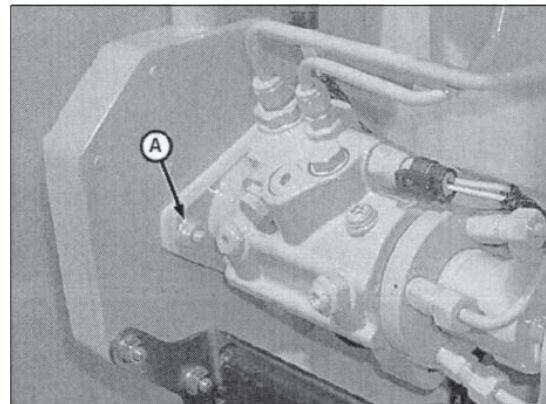

Figure 23 Reproduced by permission of Deere & Company, c.2004. Deere & Company. All reserved.
- Install the pump onto the mounting studs and tighten the three pump mounting stud nuts (Fig. 23 A) to below specification. Position the drive gear while installing the pump.